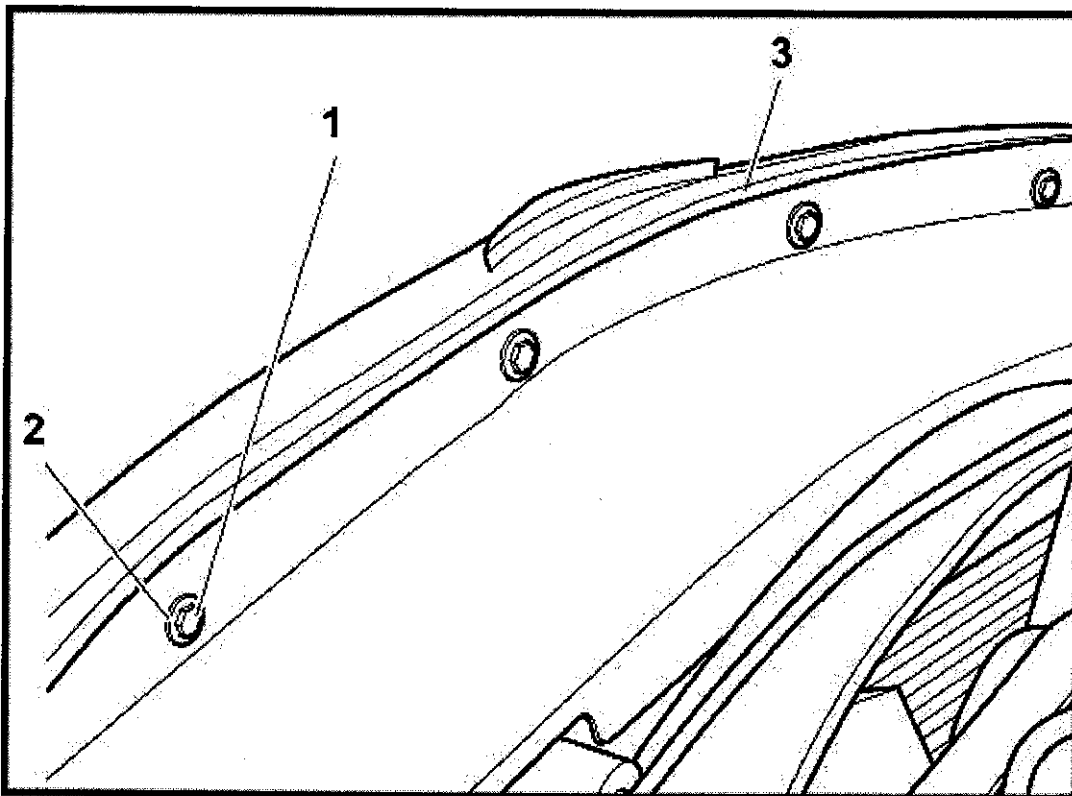

Figure 2
3. Open the bonnet and loosen four screws retaining the radiator shell; the plastic seal (3) may now be removed (see Figure 2)
4. Remove the four screws (1) and washers (2) and lift out the radiator cover assembly (see Figure 2)
15. Put the radiator assembly back onto the vehicle and secure in place with the four fasteners running along the top of the radiator shell (see Figure 2)
16. Slide in the plastic seal (3) before tightening the four fasteners (see Figure 2)